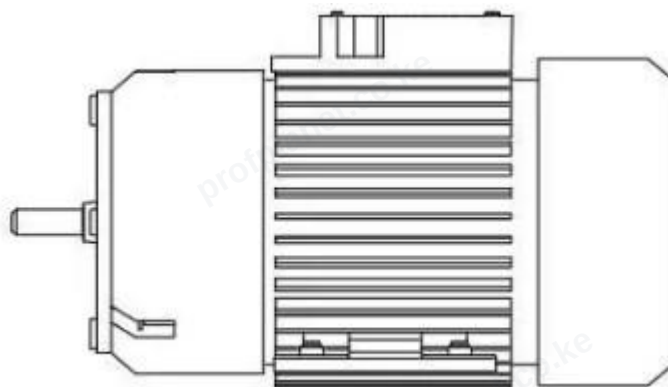

Figure 3
- i. Reassemble the electrical motor provided as shown in Figure 3
- Insulation Resistance (IR) Test